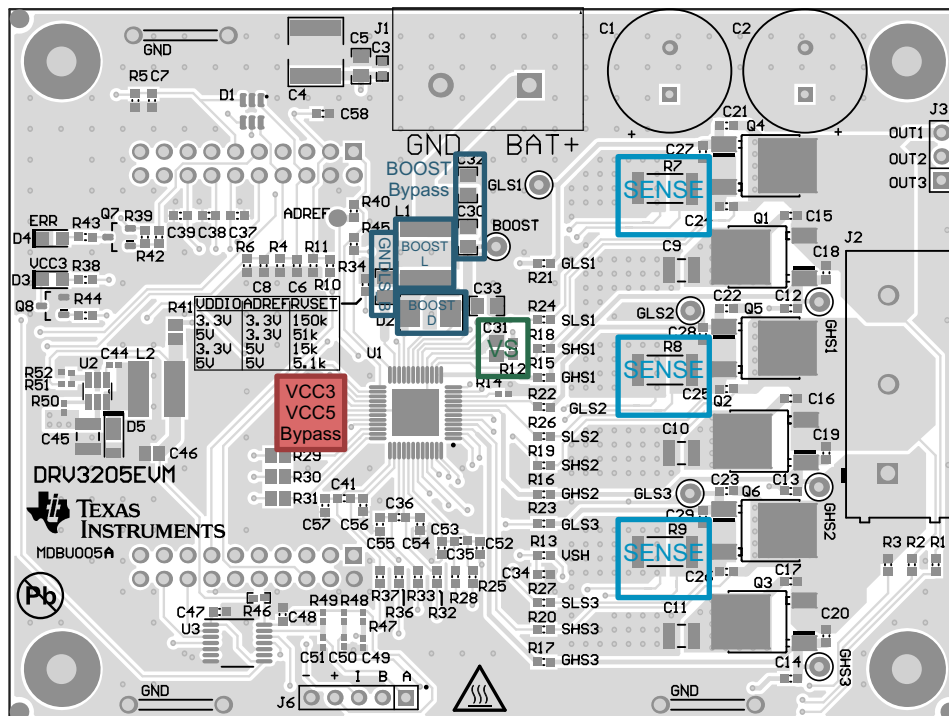

Figure 19. Layout Schematic
- The VS bypass capacitors should be placed close to the power supply terminals. See the VS box in Figure 19
- Place the VCC5 and VCC5 bypass capacitors close to the corresponding pins with a low impedance path to the ground plane pin (pin 16). See the VCC3 VCC5 bypass box in Figure 19.
- Route the sense lines, IPx and INx, each with a unique trace, directly to either side of the sense resistor. See the SENSE box in Figure 19.
- Keep the BOOST components close to the device and current loops small. See the BOOST boxes in Figure 19.
- Place the current sense resistors close to the respective low-side FET. See the SENSE box in Figure 19.
- Place the GNDLS_B resistor close to the device pin. See the GNDLS_B box in Figure 19.